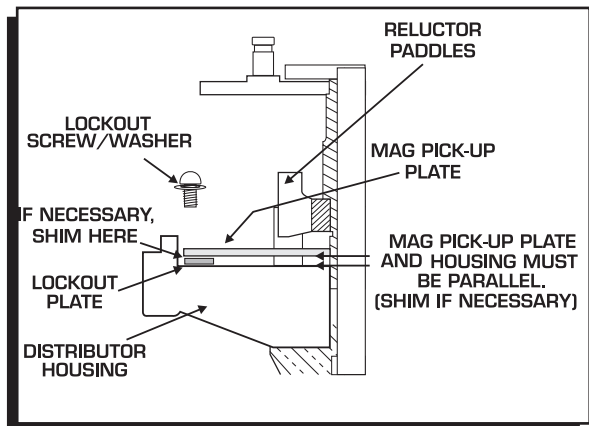

Figure 12 Checking Installation of the Lockout Plate.
6. It is important to make sure the pickup plate is parallel with the housing of the distributor (Figure 12). If it is cocked or slanted, the paddles of the reluctor may contact the pickup. Check the clearance by rotating the distributor shaft. If necessary, use the supplied shims under the Lockout hold-down to correctly position the pickup plate.